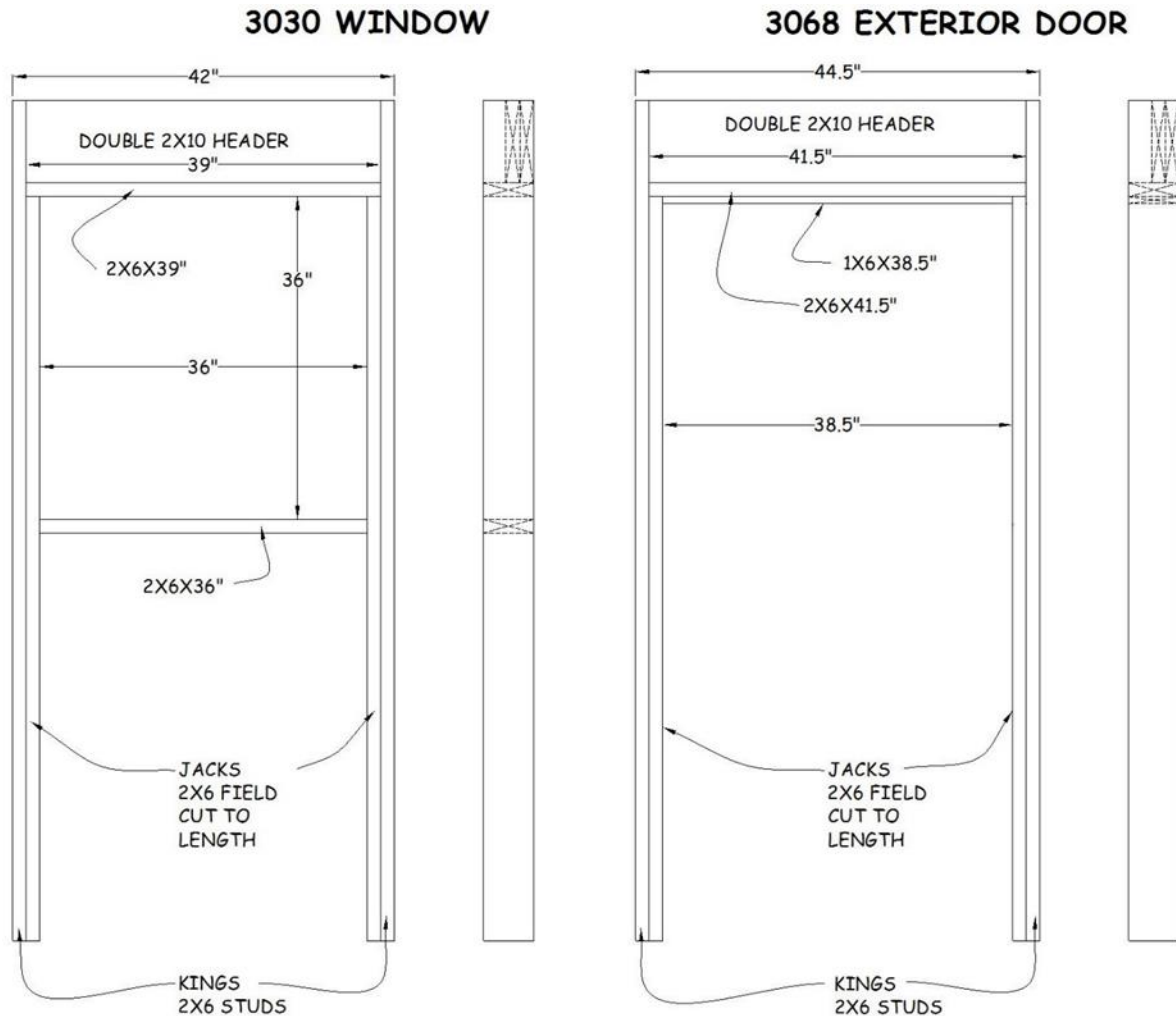

Figure 4-1. Component Assembly Drawing.
- b. For windows, FIRST CREATE AN “H” ASSEMBLY of the two Jack studs and the matching 2x6 sill piece. Clamp and nail the “H” to the King studs with 3¼” Paslode nails as above (see Figure 4-1). DO NOT nail the Jack studs to the King studs before creating the “H”.